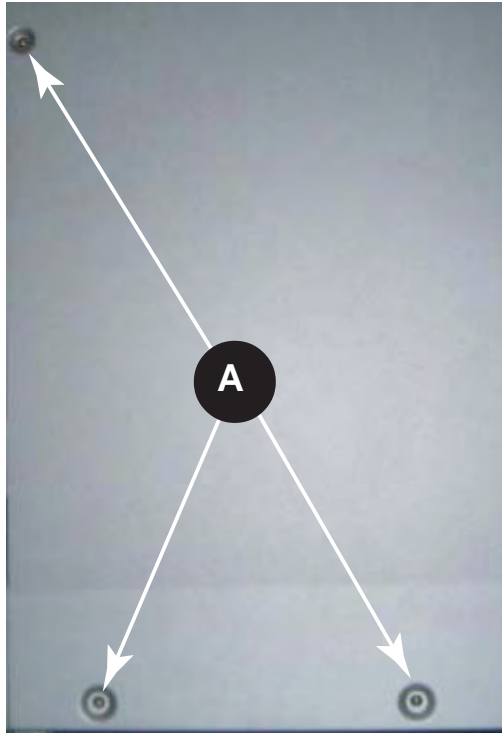

Figure 1
- 1) Loosen 6 screws at both slide cover "A" shown as figure 1 and 8 screws at back panel to take out the top cover.